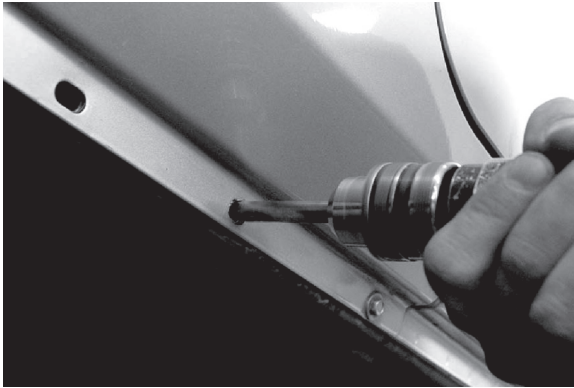

FIGURE 4
1. **Starting with the drivers side**, use the 7/16" drill bit to open up the existing holes in the pinch weld flange as shown in figure 4. There are four (4) of these holes on a 2-door JK, and six (6) on a 4-door. Use caution when